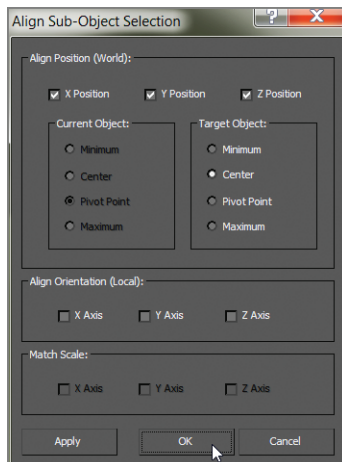

FIGURE 5.22 Align Sub-Object Selection dialog box
5. Now click Center under Target Object, and then click OK, as shown in Figure 5.22. The XForm's center will move.